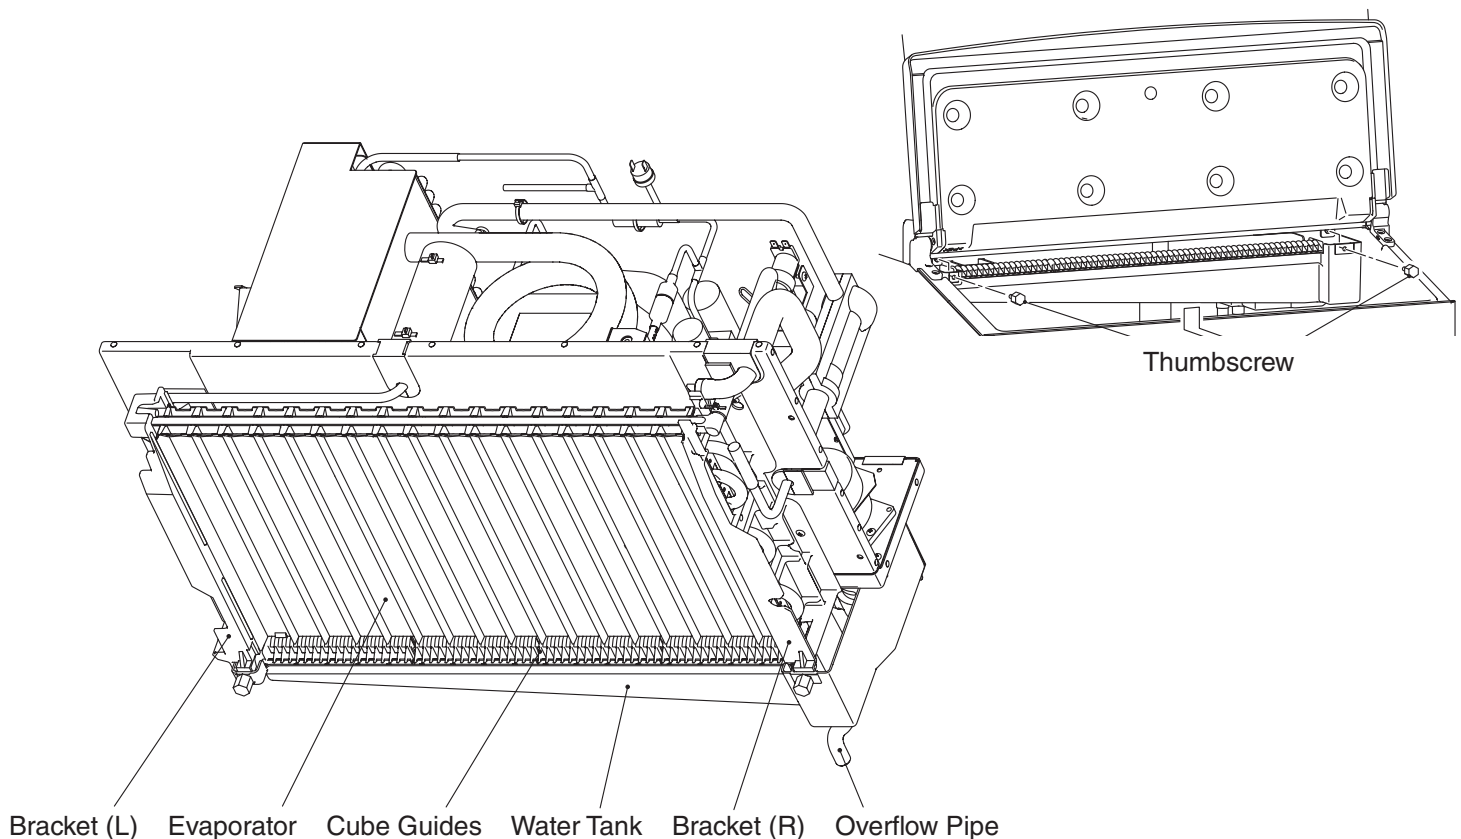

Fig. 8
- 16) Disconnect the overflow pipe. Next, remove the water tank by removing the two thumbscrews and pulling the tank towards you slightly and pushing it down. Be careful to avoid breakage when handling the parts. See Fig. 8.